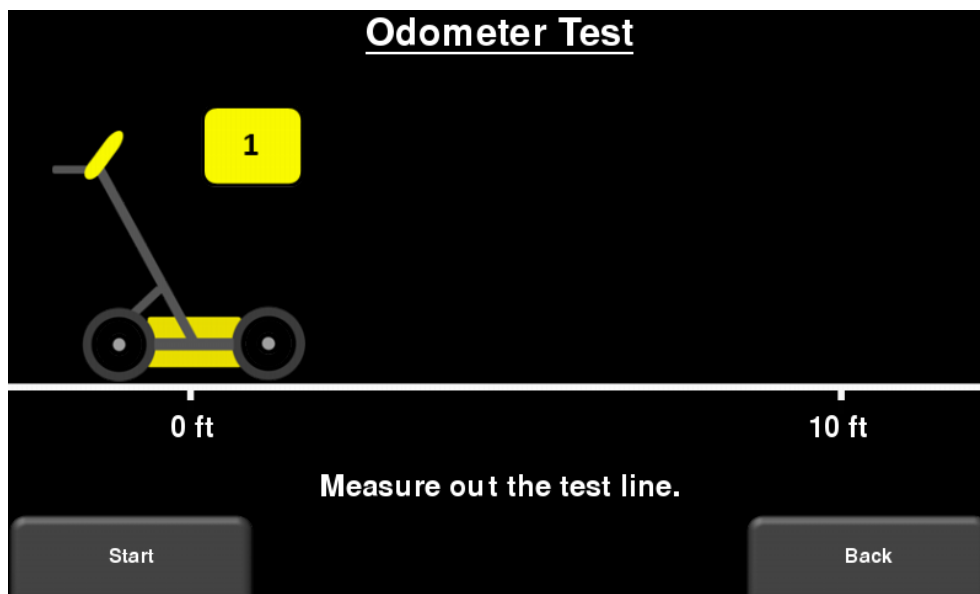
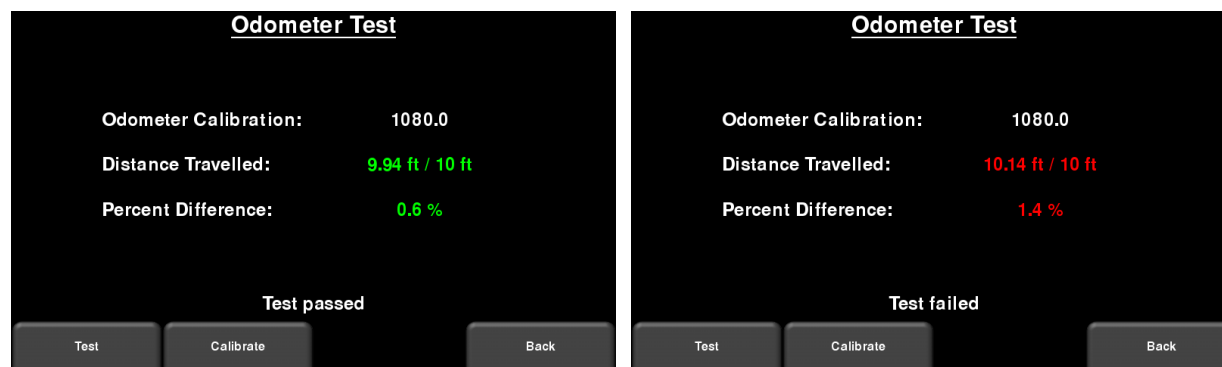

Figure 5-34: Ready to calibrate odometer a distance of 10 feet
Figure 5-35: Odometer Test passed on left, failed on the right
- **Odometer Test** – This test verifies the odometer is calibrated properly (Figure 5-34). It involves moving the system a set distance (5m or 10', depending on units used), and comparing the value obtained to a known value. Press **Start** to begin and then press **Finish** when you've moved that distance. It will display a pass or fail, along with a percentage difference from the known value (Figure 5-35).